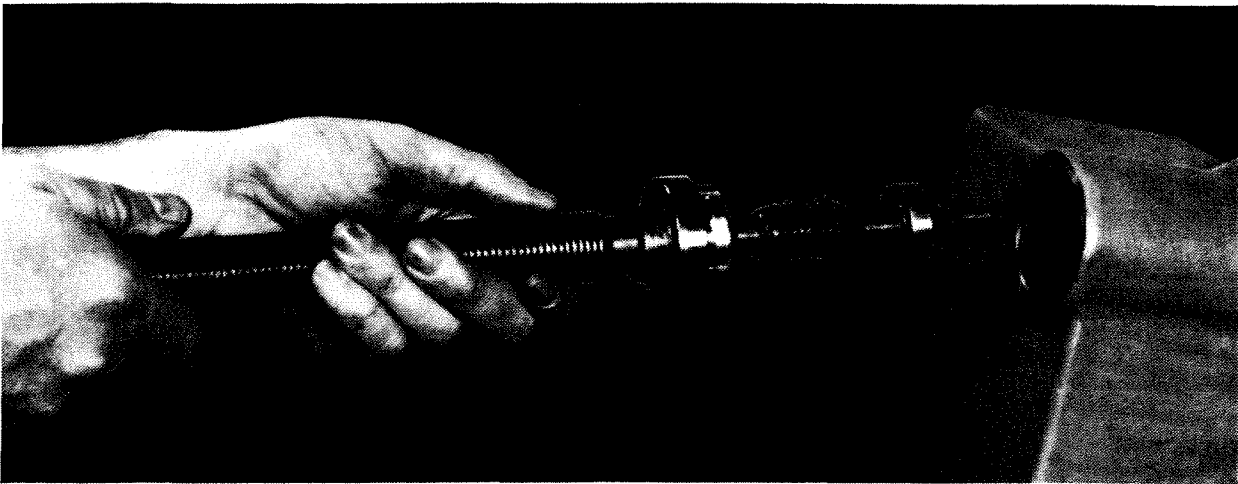

Figure 3.34 - Vertical Screw Removal
11. Remove the vertical screw assembly, Figure 3.34 .
6. Install the vertical screw assembly, Figure 3.34 .